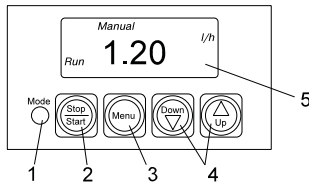

Fig. 11 Control panel
To select the operating mode, press the [Menu] button. The display indicates the operating mode. To change the mode, use the [Up/Down] buttons, see fig. 11, pos. 4.